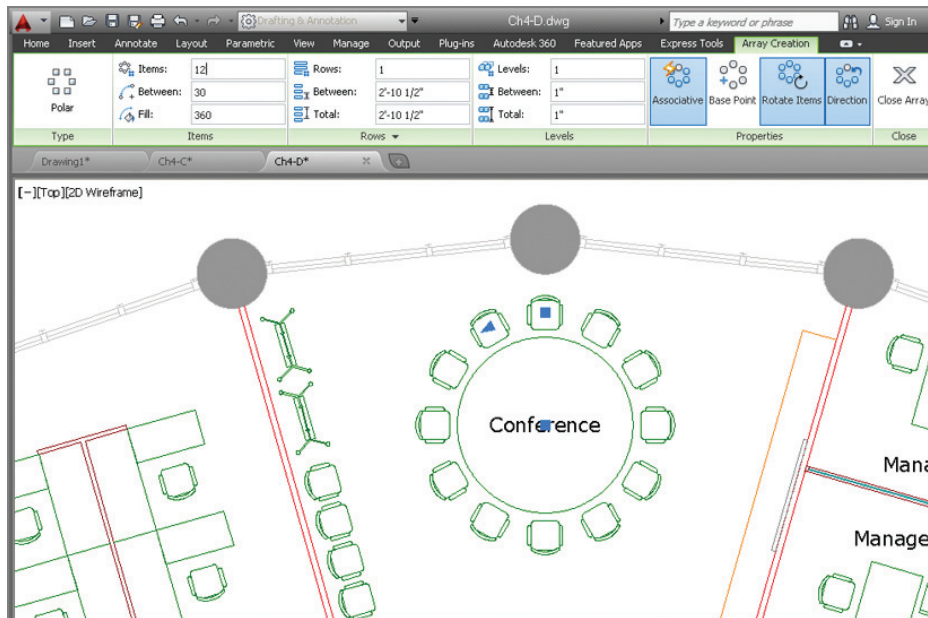

FIGURE 4.21 Creating a polar array
7. Type **12** in the Items text box on the ribbon. Toggle on Associative, Rotate Items, and Direction if they are not already on in the Properties panel (see Figure 4.21). Click Close Array.